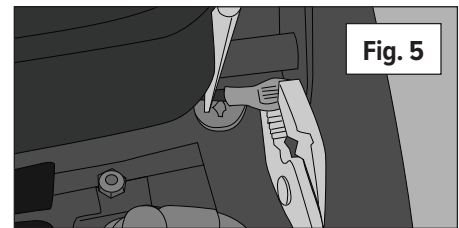

Fig. 5
9. **(Fig. 5)** Use the standard slip-joint pliers to crimp the hot shrink tube onto the ring terminal to ensure the heat activated adhesive comes in contact with the wire and ring terminal. Let it cool for a few minutes.